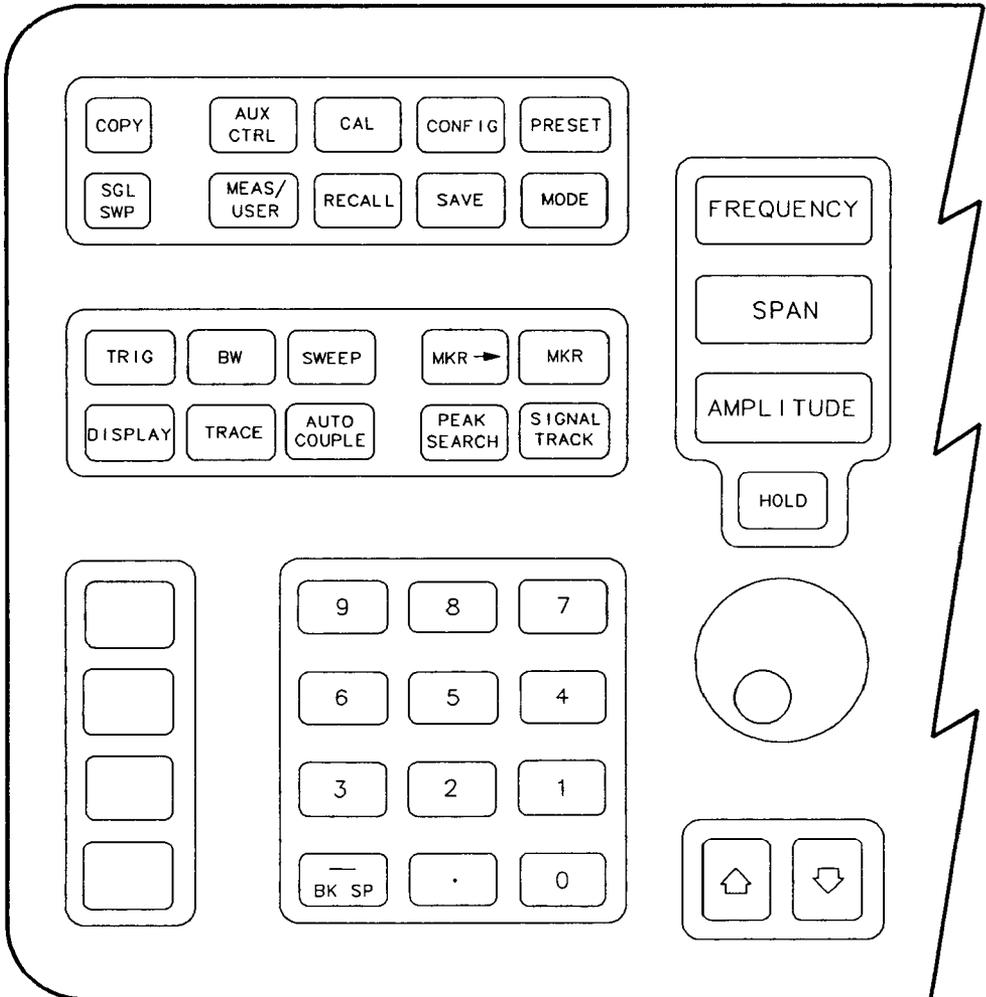

Figure 3-2. A1A1 Front-Panel Key Positions
1. Check that all front-panel keys are correctly placed in the front-frame assembly. Figure 3-2 illustrates the positions of all keys as viewed from the back side of the front panel. Make sure that the indented orientation mark located on the back of each key is next to the raised marks located on the front-frame casting next to each key.